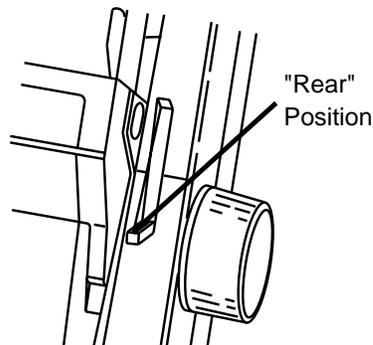

Figure 6-8. Model 602 Paper Select Lever
- 11.2. Move the paper select lever to the rear position. See Figure 6-8.